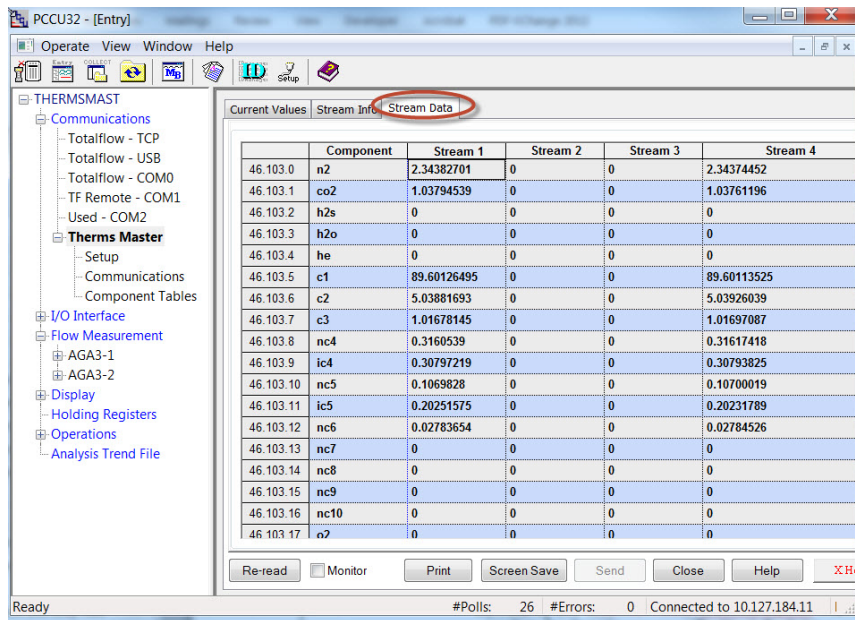

Figure 27. Verifying data for all streams enabled is received
- 12) Go to the *Stream Data* tab and verify that data is being received for enabled streams. See Figure 27 for a view that displays all streams at once for verification.